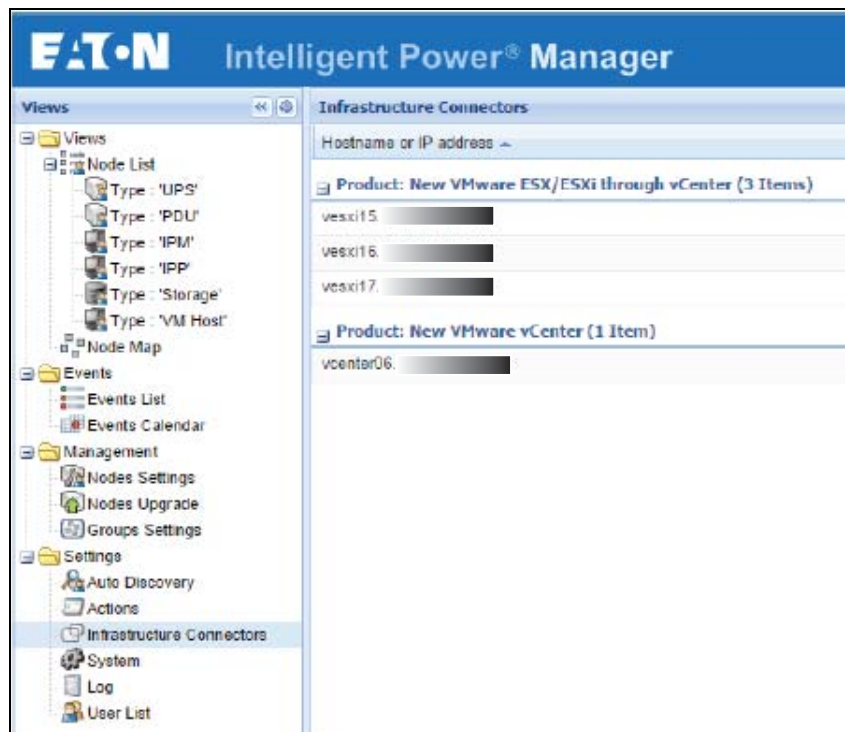

Figure 239. Infrastructure Connectors
5. Check that the connection is listed in the Infrastructure Connectors panel (see Figure 239).